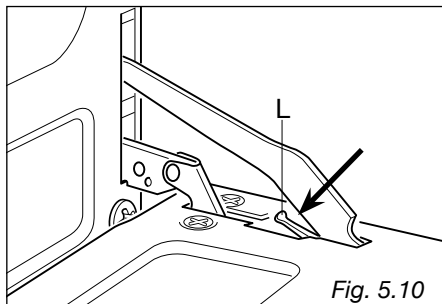

Fig. 5.10
- Push down the lever “L” and, keeping it in this position, slowly close the door in order to block the hinge (fig. 5.10).